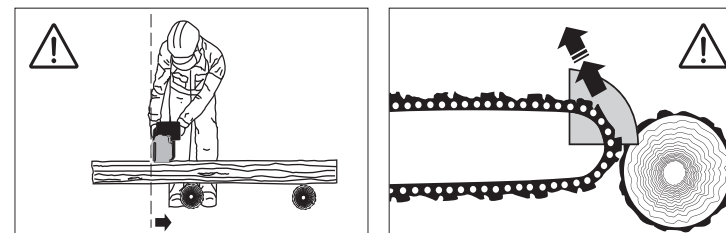

Fig. 1
- The saw should be guided in such a way that no part of the body is in the cutting plane (Fig. 1).